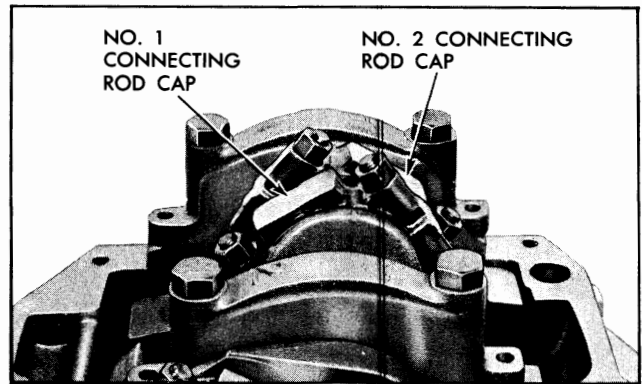

Fig. 6-61 Crankshaft Positioned for Removal of No. 1 and No. 2 Connecting Rod Caps
3. Rotate crankshaft as necessary to bring crank pin carrying bearing to be replaced straight down (Fig. 6-61).
3. Rotate crankshaft so crank pin carrying assembly to be replaced projects straight downward (Fig. 6-61).